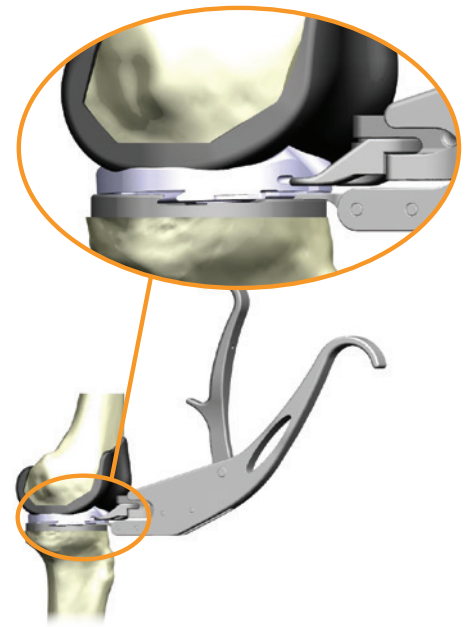

Figure 69
- 3 Insert the tip of the Articular Insert Assembly Tool into the center notch of the anterior lock detail (handle up) and engage the two tabs of the Tool into the two recesses on the anterior periphery of the insert (Figure 69).